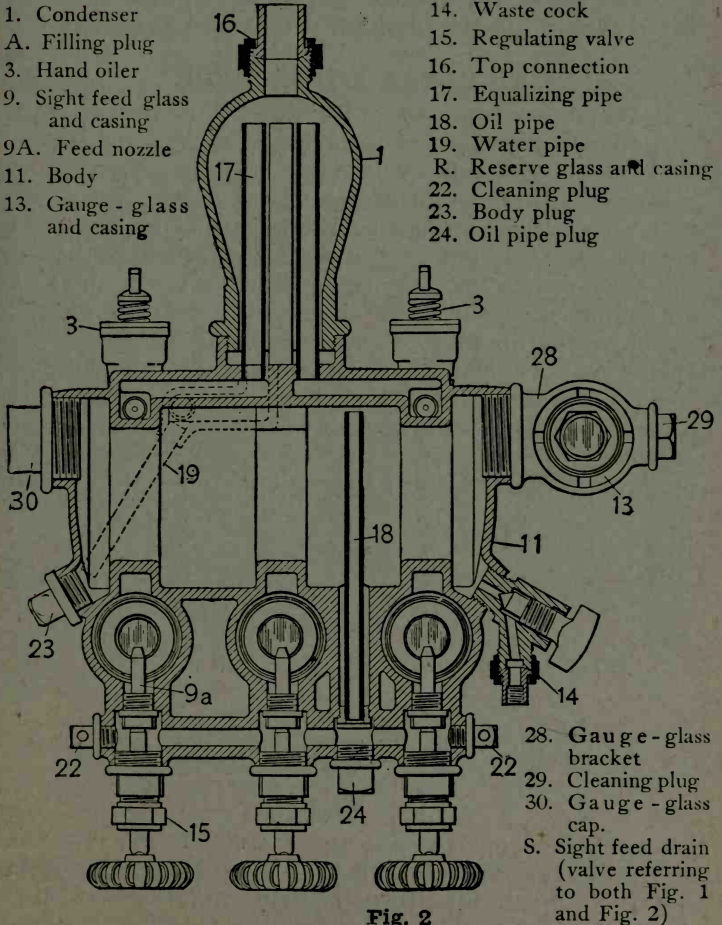

Fig. 2
**Construction and Operation.**—We give two views of this popular lubricator. Fig. 1 shows a front view and Fig. 2 a sectional view. This lubricator is designed to withstand the increased steam pressures used on present day locomotives, and can be relied upon in all conditions of service. This type of lubricator is provided with a new form of disk glass, that it is claimed will not break under any condition of service, thus eliminating the danger to enginemen and delays